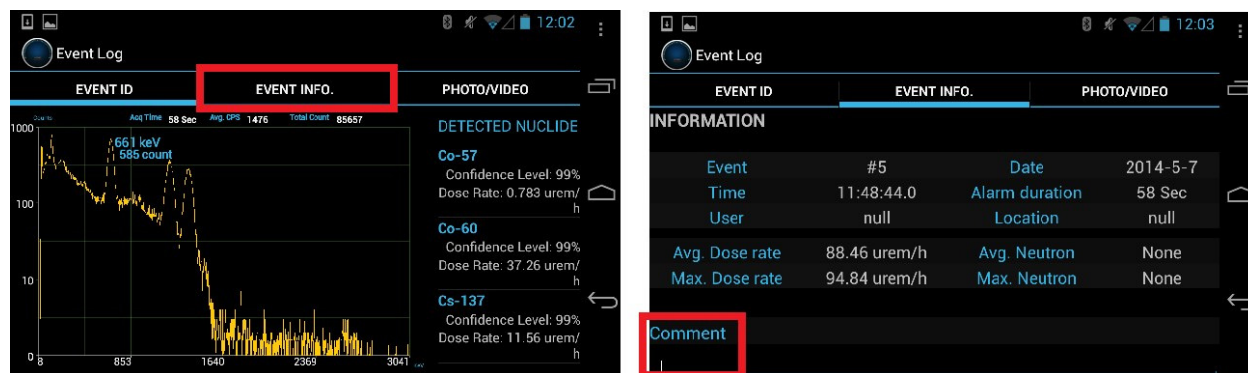

Figure 4.22. Navigating to the Comment field
2. To attach a comment, touch the **Event Info** tab to open the Event Info screen (Figure 4.22, left).
- a. Touch the blinking cursor in the Comment field at the bottom of the screen (Figure 4.22, right).